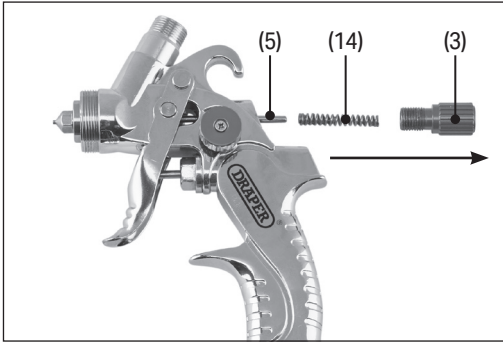

Fig. 4
3. Rotate the fluid control dial (3) anticlockwise until it comes away from the spray gun body (Fig. 4).
4. Remove the spring (14) and fluid needle (5) from the chamber via the back of the spray gun.